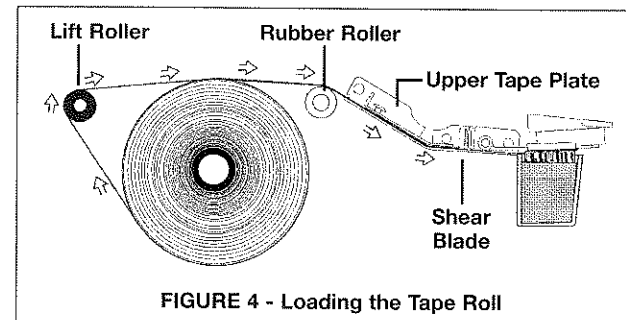

FIGURE 4 - Loading the Tape Roll
- The roll is upright between the roll guides. *See Figure 4.*